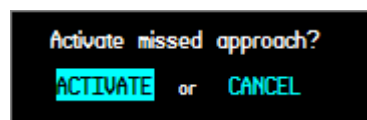

Figure 8.14
8. with the Activate Missed Approach field highlighted, click on the ENTER button to display the missed approach window (Figure 8.14)